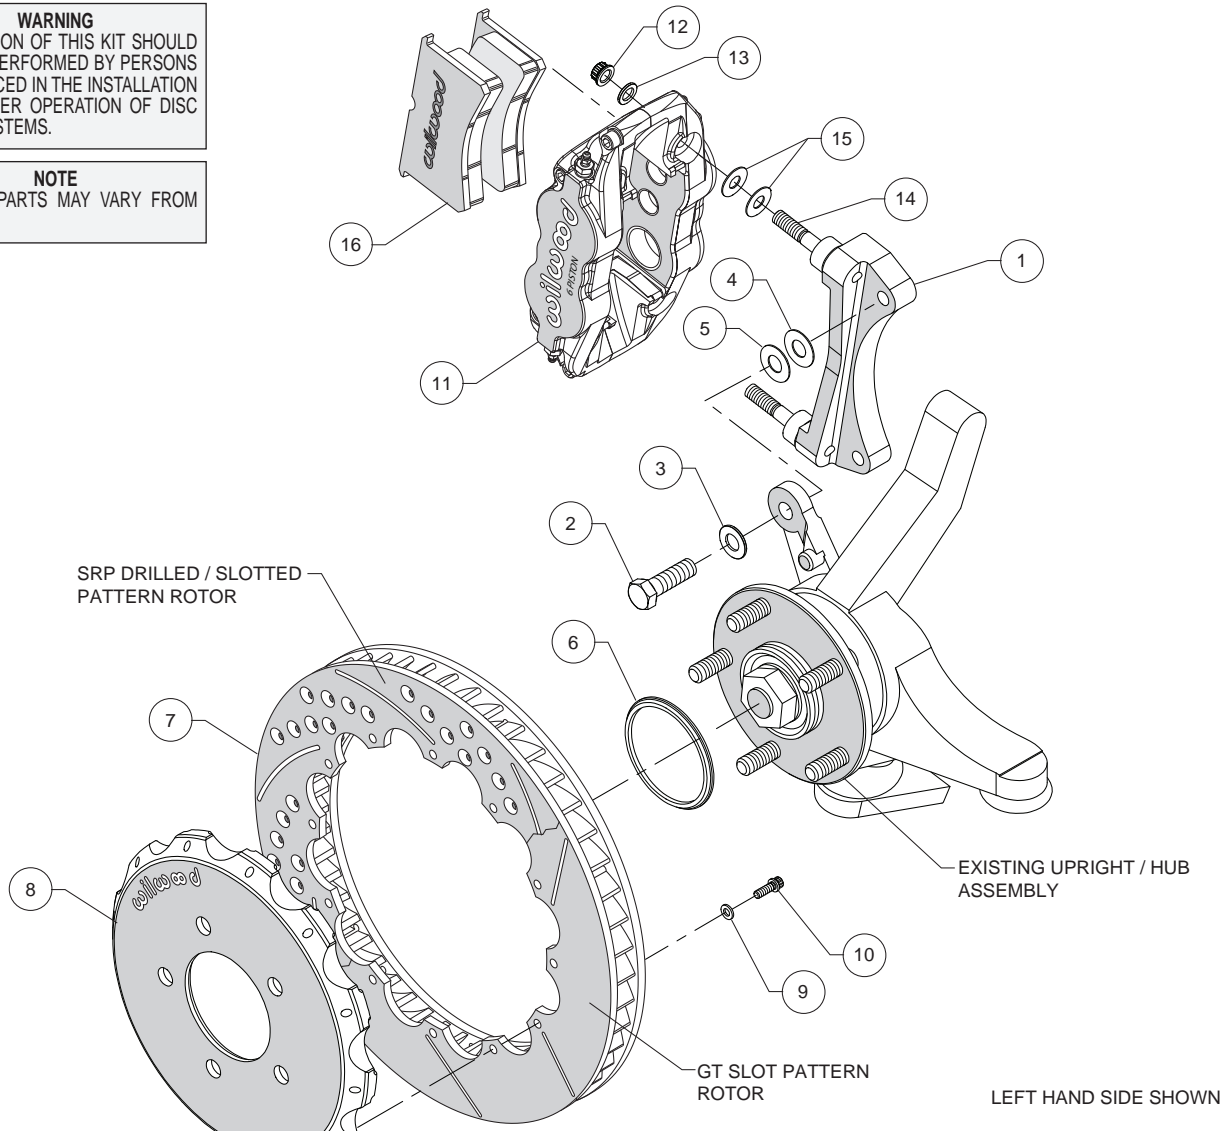
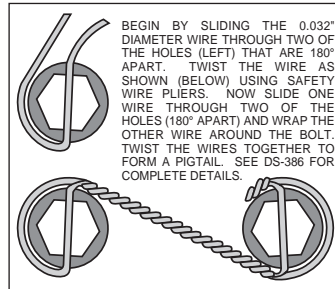

Figure 1. Typical Installation Configuration
Figure 3. Safety Wire Diagram
**Assembly Instructions** (numbers in parenthesis refer to the parts list and Figure 1 on the preceding pages):
- The caliper mount bracket (1) should initially be installed with clean, dry threads on the mounting bolts. Orient the bracket as shown in Figure 1 and Photo 1, and install using mounting bolts (2) and washers (3). Initially place one each .033" thick shim (4), and .015" thick shim (5) on each bolt between the bracket and upright, Figure 1. Temporarily tighten the mounting bolts. **NOTE:** The bracket must fit squarely against the mount bosses on the upright. Inspect for interference from casting irregularities, machining ridges, burrs, etc. Later, after the caliper alignment has been checked, the mount bolts will be secured using red *Loctite*® 271.
- Orient the rotor (7) and the hat (8) as shown in Figure 1 and Photo 2. Attach rotor to hat using bolts (10) and washers (9). Using an alternating sequence, apply red *Loctite*® 271 to the threads and torque bolts to 155 in-lb. For an added measure of security, the bolts may be safety wired using standard 0.032 inch diameter stainless steel safety wire as shown in Figure 3.
- Slide the rotor registration adapter (6) onto the axle register on the axle hub with the smaller O.D. facing outward, Photo 3. Slide the hat/rotor assembly onto the axle hub. **NOTE:** The hat must fit flush against the axle hub flange or excessive rotor run out may result. Install three lug nuts (finger tight) to keep the hat/rotor assembly in place while continuing with the installation.
- NOTE:** This kit contains distinct right and left hand calipers that must be mounted in a specific direction, as described below. Lubricate the caliper mounting studs (14) with lightweight oil. Initially place two .035" thick shims (15) on each stud as shown in Figure 1 and Photo 4. Mount the caliper (11) onto the bracket (1) using lock nuts (12) and washers (13), Figure 1 and Photo 5. Ensure that the caliper is mounted so that the largest pistons are at the rotor exit end of the caliper, in relation to the direction of rotor rotation. Temporarily tighten the lock nuts and view the rotor through the top opening of the caliper. The rotor should be centered in the caliper, Photo 6. If not, adjust by adding or subtracting shims (4 and/or 5) between the bracket and the upright. Always use the same amount of shims on each of the two mounting bolts. Once the caliper alignment is correct, remove the bracket mounting bolts one at a time, apply red *Loctite*® 271 to the threads, and torque to 60 ft-lb.